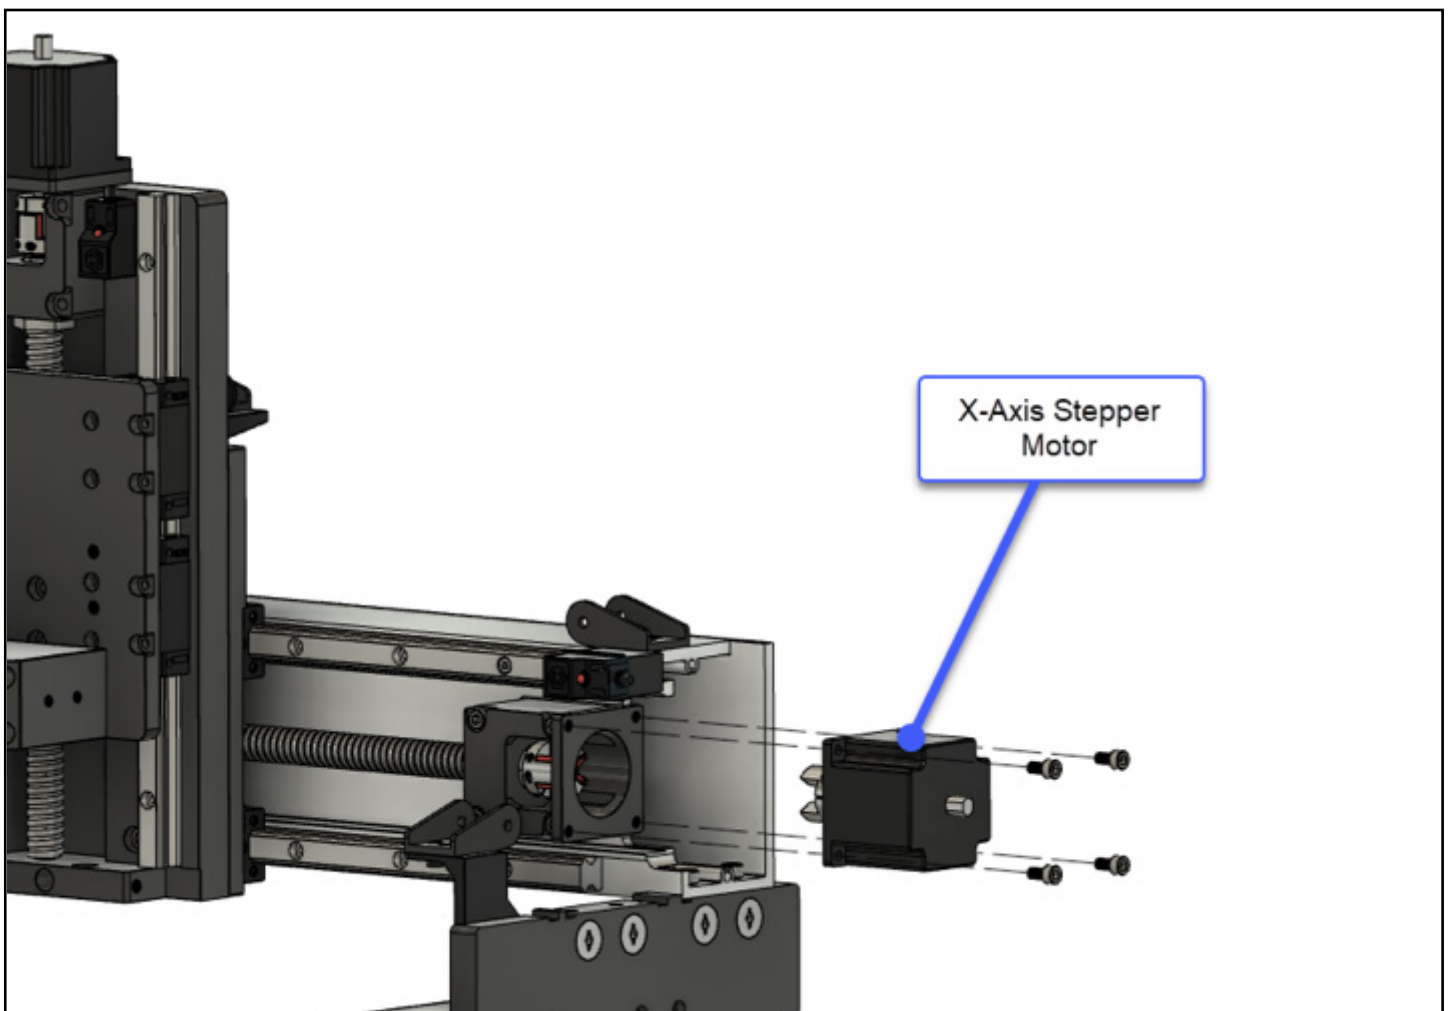

Figure 2-2
2. Orient the X-motor with the motor coupler facing toward the mount. See **Fig. 2-2**.